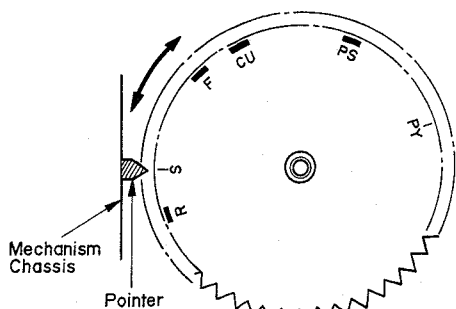

Fig. 5.1
- (a) Refer to Figs. 5.1 and 5.2.